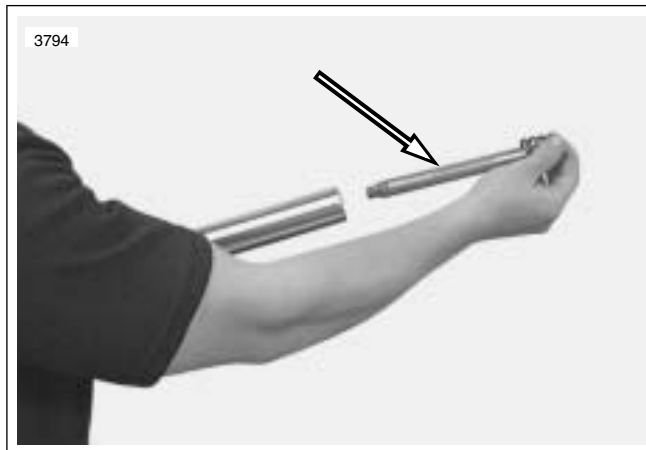

Figure 2-80. Damper Assembly
3. See Figure 2-80. Install damper assembly and rebound spring into slider tube.